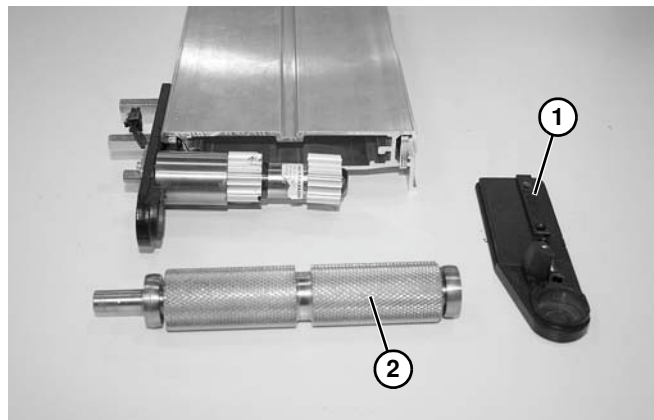

Figure 97
9. Remove head plate (Figure 97, item 1) from frame.
10. Remove and replace spindle (Figure 97, item 2).